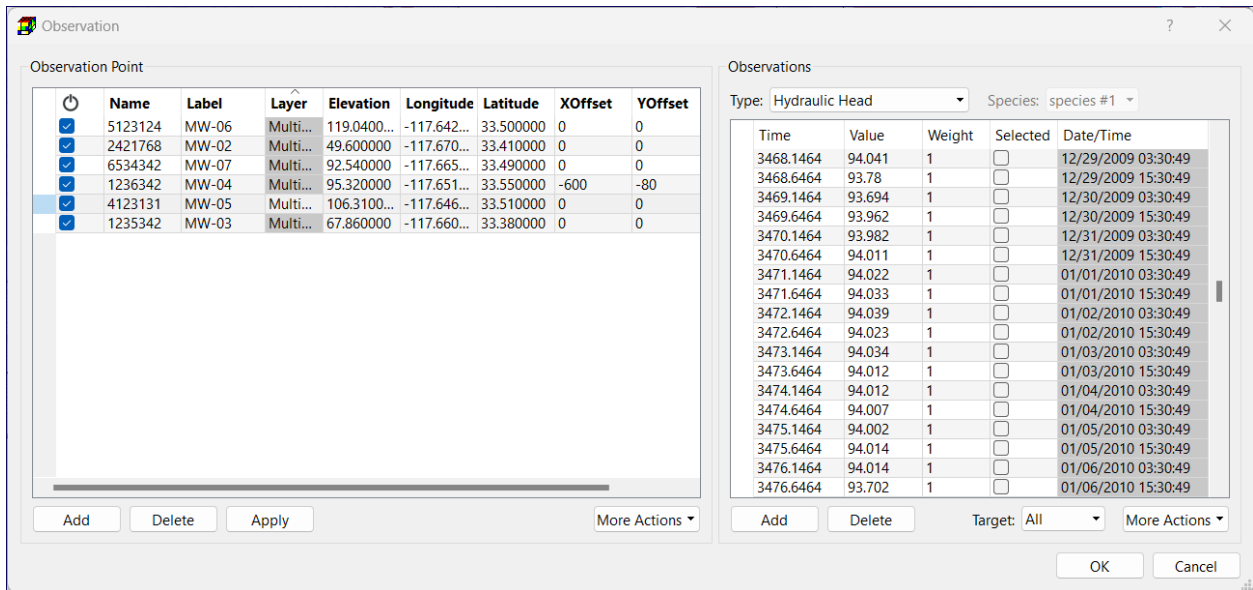

Figure 38. The Observation dialog box
2. **Remove an observation point (shift-click or shift-drag):** Shift-click on the observation point in the Map Viewer or shift-drag a window encompassing the observation points that should be deleted, then release the mouse button. Alternatively, right click on the observation point in the Map Viewer to open the Observation dialog box (Figure 38), select the observation point in the table, and then click Delete in the dialog box to delete the selected points.
4. **Edit observation data:** The Observation dialog box (Figure 38) can be used to enter and/or edit observation data. This dialog box can be opened by either right-clicking on an observation point in the Map Viewer or by right-clicking on the Observation Points group on the TOC, and then selecting Edit Data. The features of the dialog box are as follows.